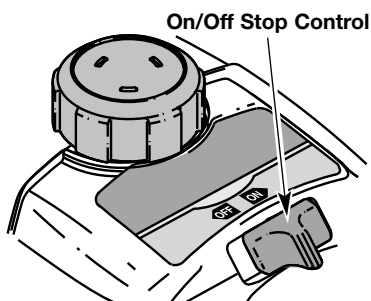
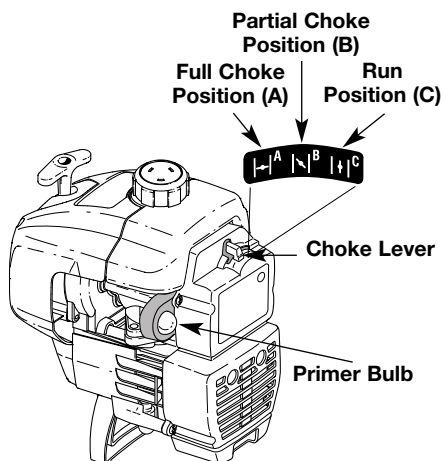

Fig. 18
Fig. 19
2. Put the On/Off Stop Control in the **ON** position (Fig. 18).
3. Fully press and release primer bulb slowly 5 to 7 times. Fuel should be felt and visible in the bulb (Fig. 19). If fuel hasn't entered the bulb, press three more times, or until it does.
4. Place the choke lever in the **FULL** choke position **(A)** (Fig. 19).
6. Place the choke lever in the **PARTIAL** choke position **(B)** (Fig. 19).
9. Squeeze the throttle control to warm up engine for 5 to 10 seconds. Place the choke lever in the **RUN** position **(C)** (Fig. 19).
NOTE: Choking is unnecessary when starting a warm engine. Put the On/Off Stop Control in the **ON** position (Fig. 18), and start in **PARTIAL** Choke position **(B)** (Fig. 19).
2. Put the On/Off Stop Control in the **OFF** position (Fig. 18).